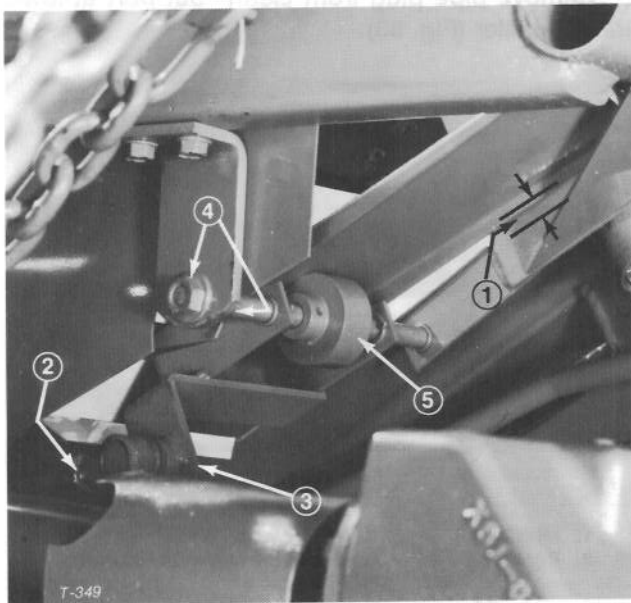

Figure 54
2. Depress traction pedal fully. There must be 2.50 inches (63.5 mm) between top front edge of pedal and triangular support brace (Fig. 54). If distance is as specified, the control rod is adjusted correctly. If distance is not as specified, proceed to step 3 for an adjustment.
3. Loosen jam nut away from front of control rod (Fig. 54). Remove cotter pin and slotted nut retaining tapered socket in pivot mount on bottom of traction pedal (Fig. 54).
1. Loosen two nuts securing traction pedal shaft on right side of pedal (Fig. 54).